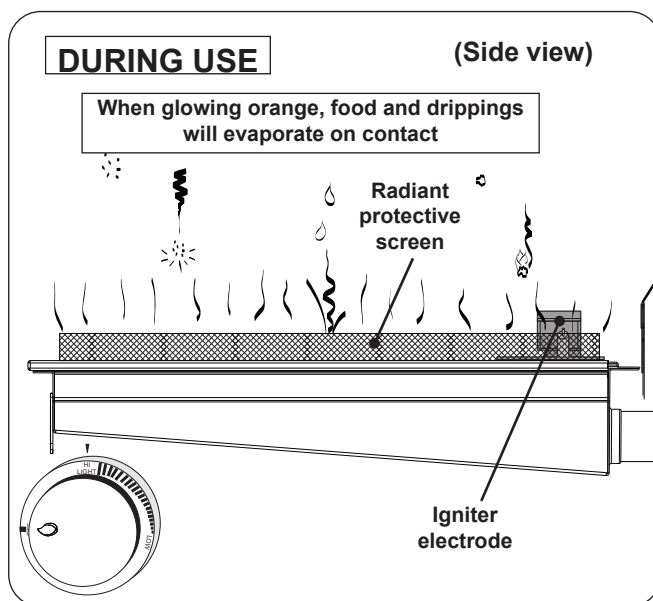

Fig. 37-3 Infrared burner - DURING USE
- **DO NOT place food on the cooking grid until the infrared burner glows orange (Fig. 37-3).** Drippings are heated and evaporate instead of sticking to and impairing burner function.